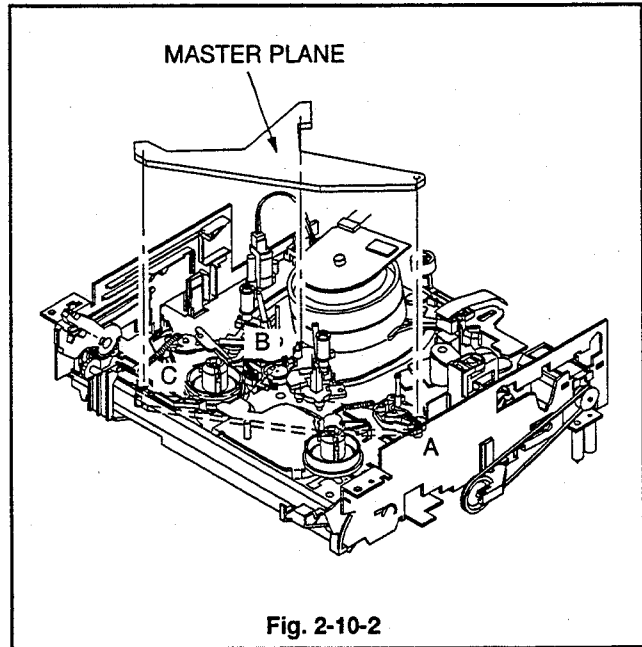
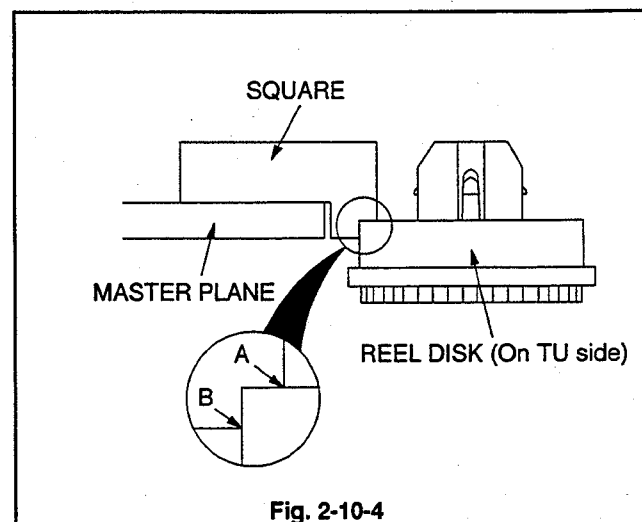

Fig. 2-10-2
Fig. 2-10-4
3. Place the height adjustment jig [MASTER PLANE] (859C342O20) shown in Fig. 2-10-2 in the reference position.
11. Place the height adjustment jig [SQUARE] (859C433O60) shown in Fig. 2-10-2 on the MASTER PLANE. Move it to the position shown in Fig. 2-10-4 and make sure that A can pass, but B cannot pass, under the REEL DISK (On TU side).